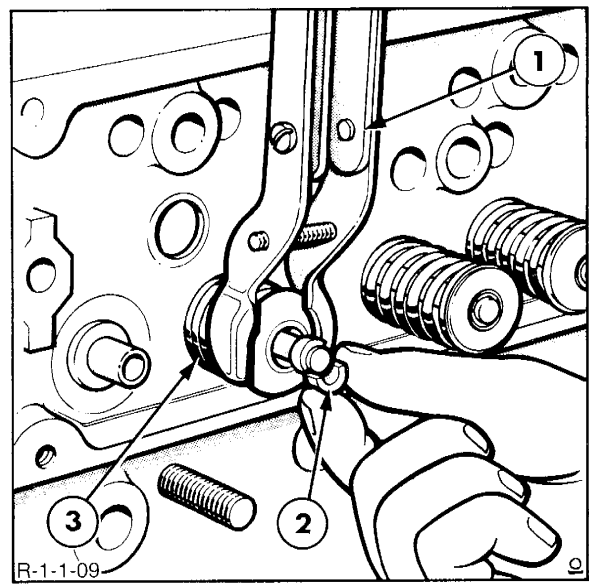

FIGURE 1-8
2. Using a valve spring compressor, Figure 1-8, remove the retainer locks, spring retainers/rotators, springs and seals from each valve, Figure 1- 9.